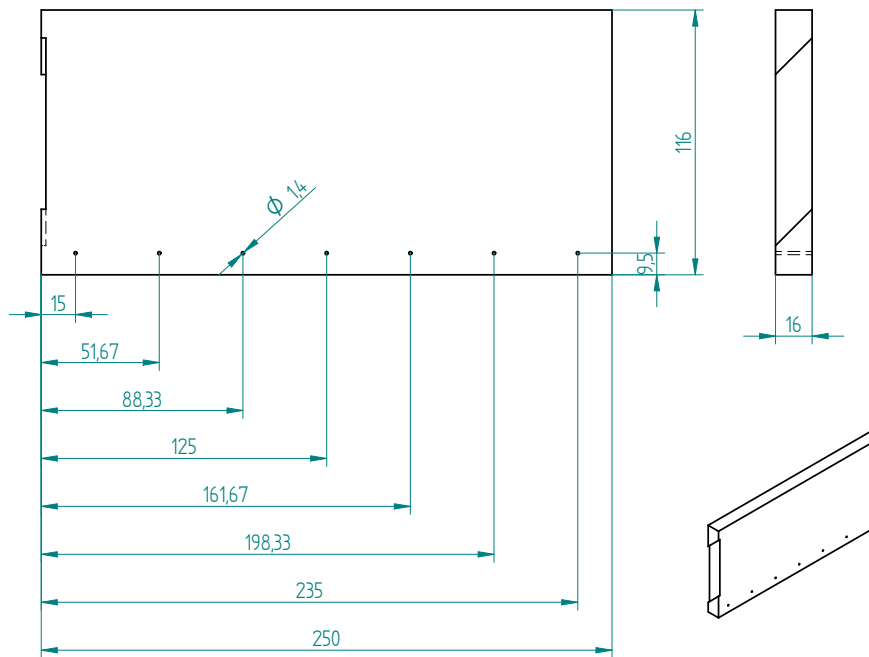

Figure A.7: Shaped part : **face-2** for **perpendicular** tool
2. drill the holes for dimension of the hole and positions see figure A.7, page 167.
Drawing See figure A.7, page 167